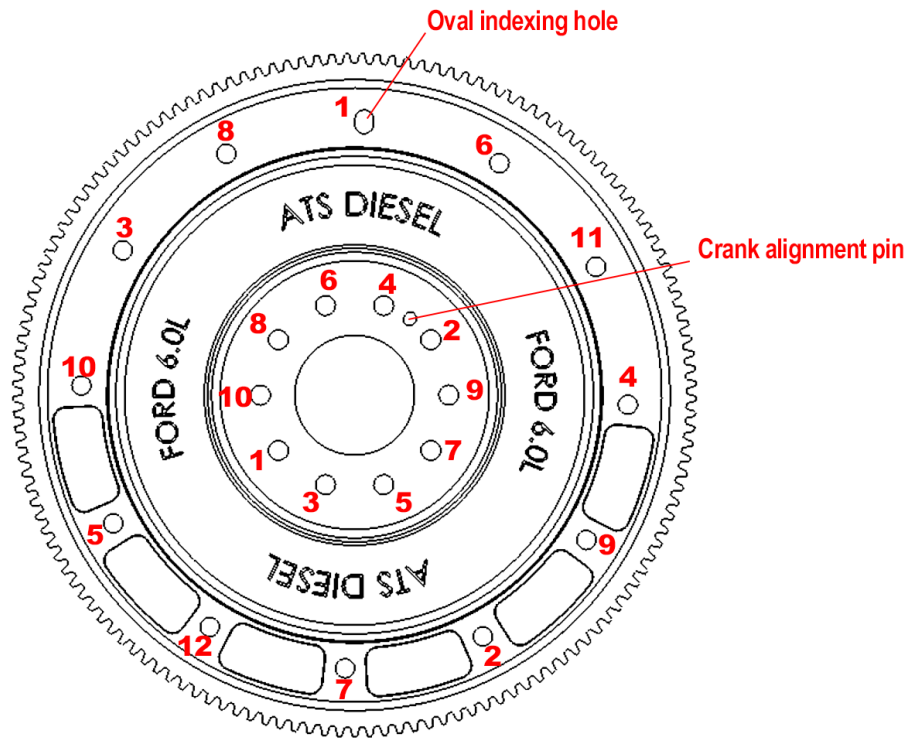

Figure 1: Oval Index Hole and Torque Sequence
3. Torque (10) crankshaft bolts **first to 44 in-lbs** in the numbered sequence as shown on the following page. (See Fig 1).
4. Torque (10) crankshaft bolts **last to 69 ft-lbs** in the number sequence as shown above. (See Fig 1).
5. With the transmission reinstalled, thread the first torque converter bolt/nut through the oval shaped hole (See Fig. 1). This hole will line up the rest of the torque converter bolts and will make installation easier.
6. If using a factory torque converter with 6 threaded studs, only 6 of the 12 holes are needed. (See Fig. 1, use torque sequence 1-7-3-9-5-11). Torque the nuts to **26 ft-lbs** (6.0L) or **35 ft-lbs** (6.4L).
8. If using an ATS 5-Star Torque Converter, torque the bolts to **35 ft-lbs** using the bolt sequence (1 thru 12) shown in Fig. 1.